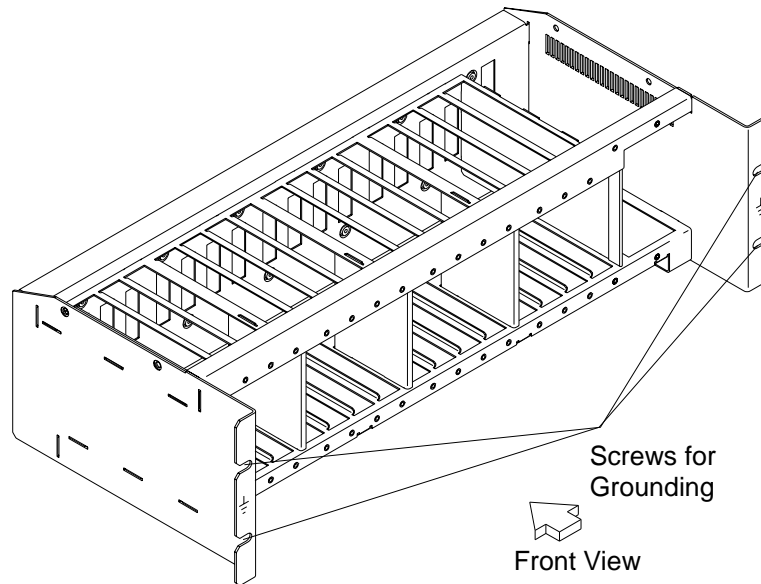

Figure 0-9. LCB Grounding via Screws
- Check that electrical continuity is assured between the LCB housing and the controller expansion frame, if LCBs are present. This operation must be performed before any network connection (see Figure 0-9 on page xxx).